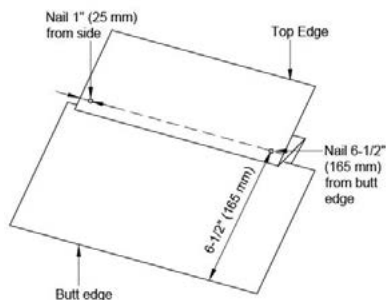

Figure 6
- Fasten with four nails, two nails on each side, placed 9 1/4" (235 mm) back from the exposed folded edge and 1" (25.4 mm) and 2" (51 mm) in from the edge in the double-layer portion of the ridge cap shingle. (See Figure 6) Do NOT nail in the self-seal stripe.